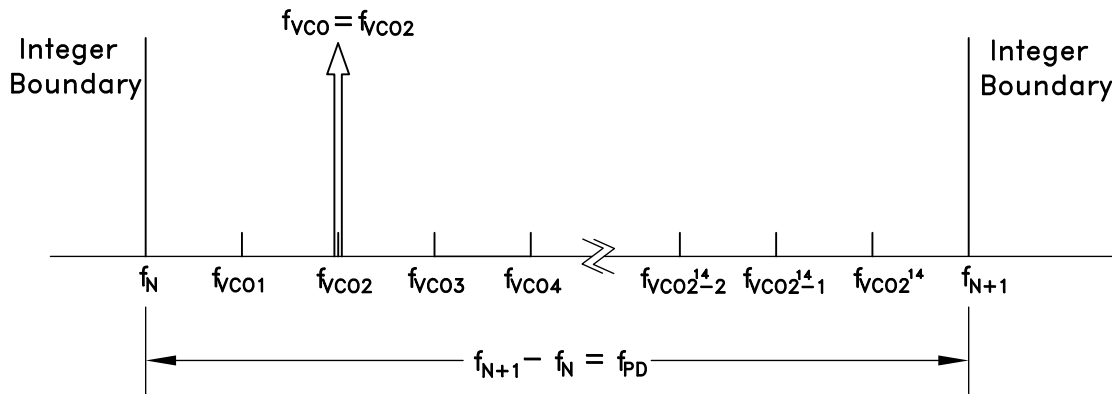

Figure 44. Exact Frequency Tuning
and f_{VCOk} are the channel step frequencies where $0 < k < 2^{24}-1$, As shown in Figure 44.
Some fractional PLLs are able to achieve this by adjusting (shortening) the length of the Phase Accumulator (the denominator or the modulus of the Delta-Sigma modulator) so that the Delta-Sigma modulator phase accumulator repeats at an exact period related to the interval frequency ($f_{VCOk} - f_{VCO(k-1)}$) in Figure 44. Consequently, the shortened accumulator results in more frequent repeating patterns and as a result often leads to spurious emissions at multiples of the repeating pattern period, or at harmonic frequencies of $f_{VCOk} - f_{VCO(k-1)}$. For example, in some applications, these intervals might represent the spacing between radio channels, and the spurious would occur at multiples of the channel spacing.
If it is desirable to have multiple, equally spaced, exact frequency channels that fall within the same interval (ie. $f_N \leq f_{VCOk} < f_{N+1}$) where f_{VCOk} is shown in Figure 44 and $1 \leq k \leq 2^{14}$, it is possible to maintain the same integer-N (Reg_03h) and exact frequency register (Reg_0Ch) settings and only update the fractional register (Reg_04h) setting. The Exact Frequency Channel Mode is possible if \(EQ 17\) is satisfied for at least two equally spaced adjacent frequency channels, i.e. the channel step size.
To configure the HMC834LP6GE for Exact Frequency Channel Mode, initially and only at the beginning, integer (Reg_03h) and exact frequency (Reg_0Ch) registers need to be programmed for the smallest f_{VCO} frequency (f_{VCO1} in Figure 44), as follows:
1. Calculate and program the integer register setting Reg_03h = $N_{INT} = \text{floor}(f_{VCO1}/f_{PD})$, where f_{VCO1} is shown in Figure 44 and corresponds to minimum channel VCO frequency. Then the lower integer boundary frequency is given by $f_N = N_{INT} \cdot f_{PD}$.
Reg 04h = $N_{FRAC} = \text{ceil}\left(\frac{2^{24}(f_{VCOk} - f_N)}{f_{PD}}\right)$ where $f_N = \text{floor}(f_{VCO1}/f_{PD})$, and f_{VCO1} , as shown in Figure 44, represents the smallest channel VCO frequency that is greater than f_N .
- To change from channel 1 ($f_{VCO1} = 2800.2$ MHz) to channel 2 ($f_{VCO2} = 2800.3$ MHz), only Reg 04h needs to be programmed, as long as all of the desired exact frequencies f_{VCOk} (Figure 44) fall between the same integer-N boundaries ($f_N < f_{VCOk} < f_{N+1}$). In that case